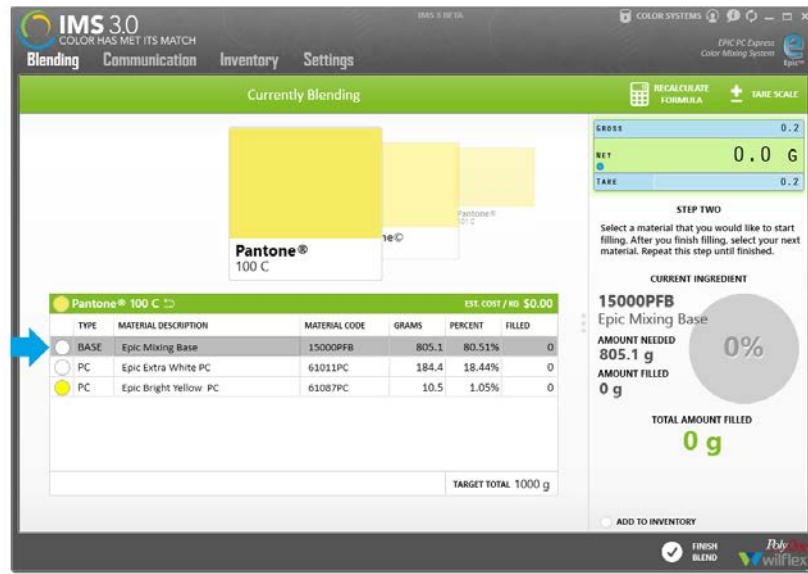

Figure 25 Step 1: Place your empty bucket on scale and click START to begin weighing.
- Upon clicking the “Blend Scale/DM4” button, the blending panel will slide out and your interface will look like the image below. (Figure 25)